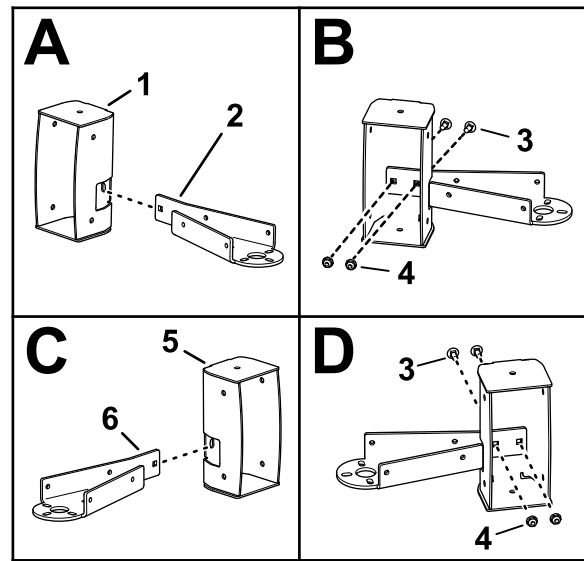

Figure 45
1. Align the left light-housing mount into the left light housing as shown in Figure 45.
2. Secure the mount to the housing (Figure 45) with 2 carriage bolt (1/4 x 5/8 inch) and flange locknut (1/4 inch).
3. Align the right mount into the right light-housing mount as shown in Figure 45.
4. Secure the mount to the housing (Figure 45) with 2 carriage bolt (1/4 x 5/8 inch) and flange locknut (1/4 inch).